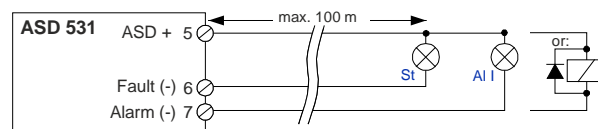

Fig. 39 Connecting the OC outputs
- When connecting inductive consumers (e.g. relays), a free-wheeling diode is to be installed directly at the consumer (**Fig. 39**).